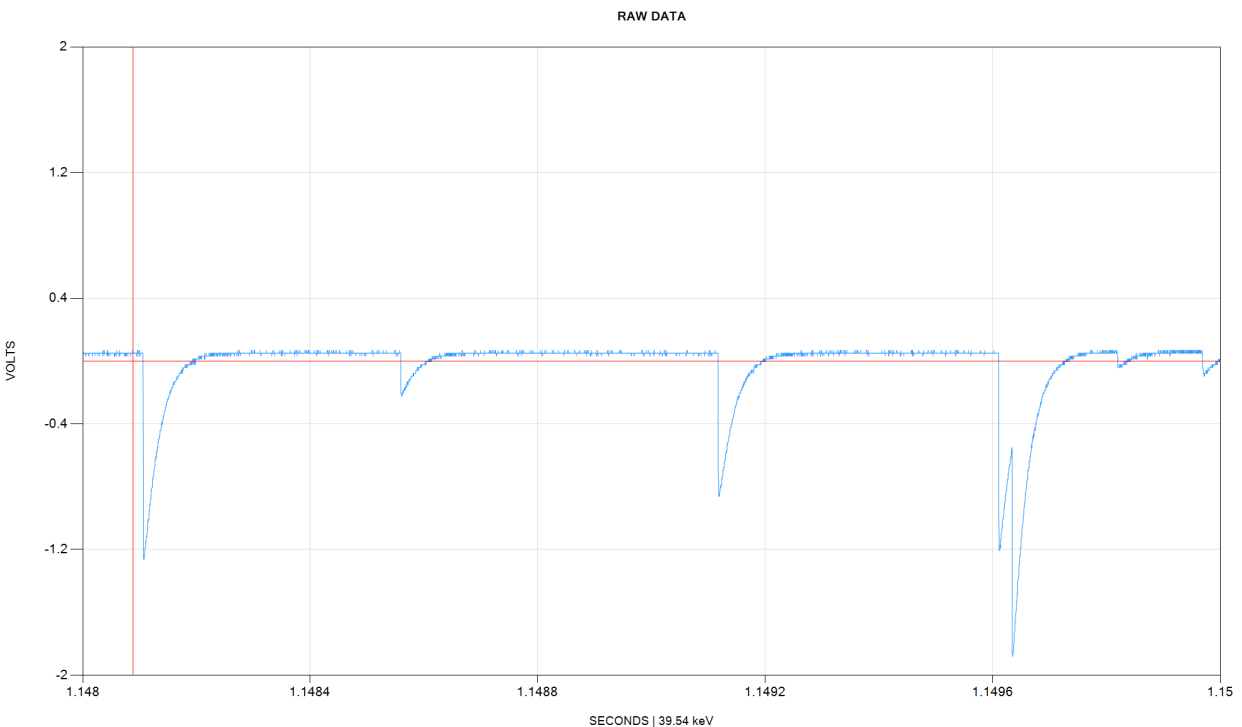

Fig. 3. Short negative pulses from the dynode of a PMT coupled to a NaI(Tl) scintillator.
- **Short unimodal pulses** such as pulses from PMT voltage dividers, SiPM, or proportional counters - Fig. 3;
These dual-socket detectors can be connected directly to an ANL device by feeding the detector signal into any available ANL input channel via a BNC cable as shown on Fig. 3, where the detector bias is supplied via a separate SHV cable.